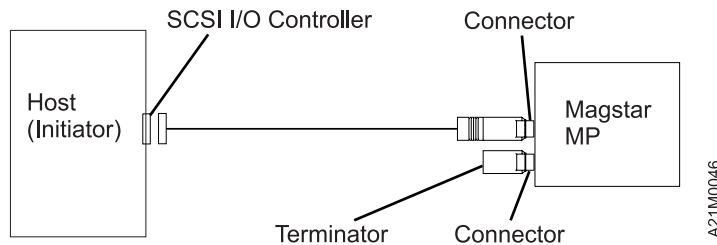

Figure 9. Example of Attaching One SCSI Device to the Host (Initiator)
2. If the Magstar MP is the first or only SCSI device connected in line to the initiator, connect the SCSI interface cable coming from the initiator to the leftmost SCSI connector on the back of Model B00 (see Figure 9 and **3** in Figure 11).
4. If this is the last device on this SCSI bus, locate the SCSI interface terminator (P/N 61G8342) and attach it to the rightmost SCSI connector on the back of Model B00 (see Figure 9, Figure 10, and **2** in Figure 11).
Figure 9 shows an example of a single Magstar MP attached to the host (initiator) and Figure 10 shows an example of attaching multiple SCSI devices to the host.